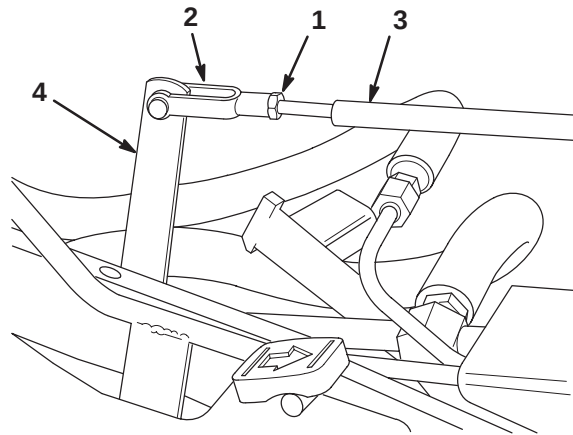

Figure 47
3. Move the adjustment lever by hand to level the mow and lift pedals and adjust the yoke on the control rod until the hole in the yoke lines up with the adjustment lever hole (Fig. 47).